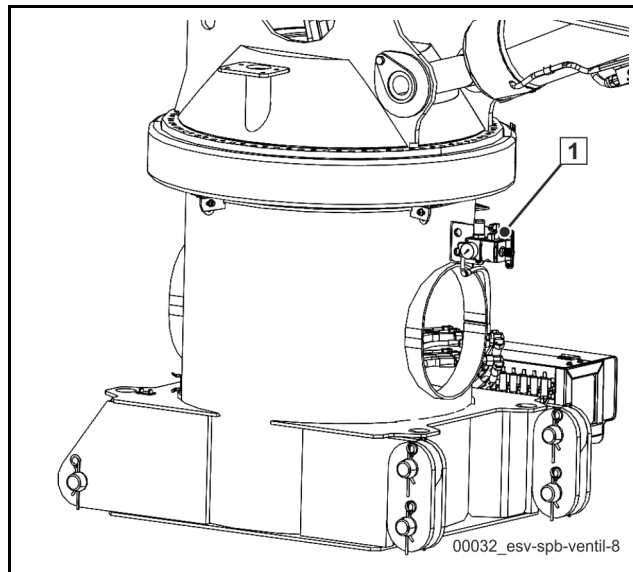

Fig. 447 Compressed air connection
Make sure that you have the required quick-acting coupling for the compressed air connection (1) (**Fig. 447**).